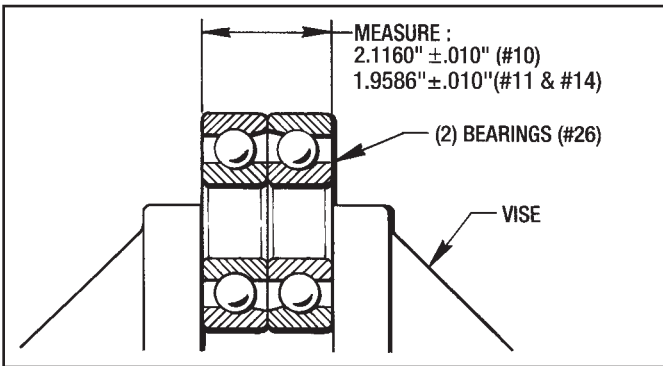

Figure 9.2 - Measuring Thickness of Bearings (#26)
To determine if a Bearing Shim (#378) is needed for the output shaft, measure the thickness of the (2) Bearings (#26) when clamped together as shown in Figure 9.2. If the bearings measure smaller than 2.1160" for Size #10 and 1.9586" for Size #11 and #14, then a Bearing Shim (#378) will be required. If the bearings measure larger than the specified dimensions, no shim will be needed. **NOTE:** This Shim will be installed when the Bearing Retainer (#7) is attached to the housing.